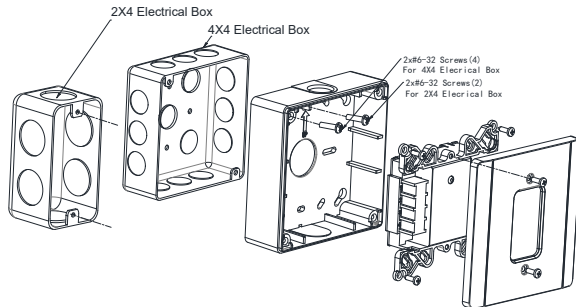

Figure 1 Installation Diagram
1. Mount the base onto a standard electrical box or a backbox model FW800& FW801 using the screws provided, See Figure 1.